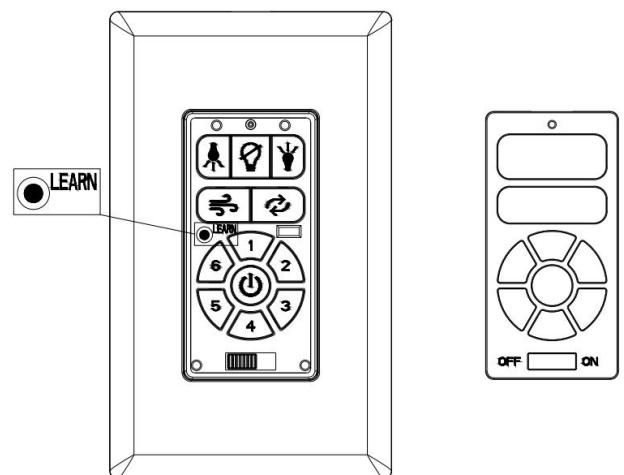

FIG. 3
1. After installation is complete, AC power is turned on and (**OFF**  **ON**) SWITCH is at ON position within 30 seconds, press and hold the **LEARN** button for 3 seconds. Fan will turn on 30 seconds then off and down light (if installed) will blink three times. This confirms that the SMART SYNC setting is active and ok. (Refer to FIG. 3)